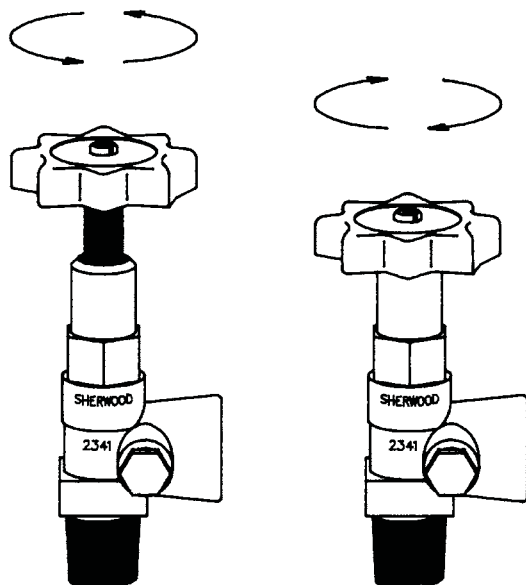

Figure 1
1. Place the adapter valve in the vise so that the valve outlet is held flat against one of the vise jaws. **DO NOT OVERTIGHTEN.** Overtightening the vise can distort the valve body, making it difficult to remove the poppet assembly. Should this occur, the entire valve must be destroyed so it cannot be reused. See Figures 1 & 2.